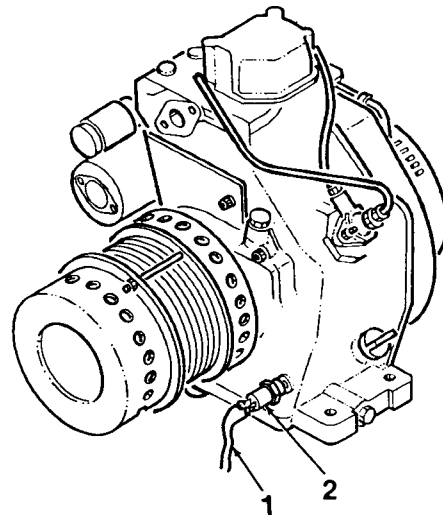

Figure 4-29. Lubrication Oil Pressure Switch
1. It is not necessary to drain oil if a suitable plug is used to plug port when lubrication oil pressure switch (2, Figure 4-29) is removed. If required, drain oil (Para. 4-1).
2. Tag and disconnect electrical wires (1) from pressure switch (2).
3. Remove lubrication oil pressure switch (2) from engine crankcase.
1. Apply teflon tape to the threads of lubrication oil pressure switch (2, Figure 4-29). Install switch into engine crankcase.
2. Connect electrical wires (1) to pressure switch (2).